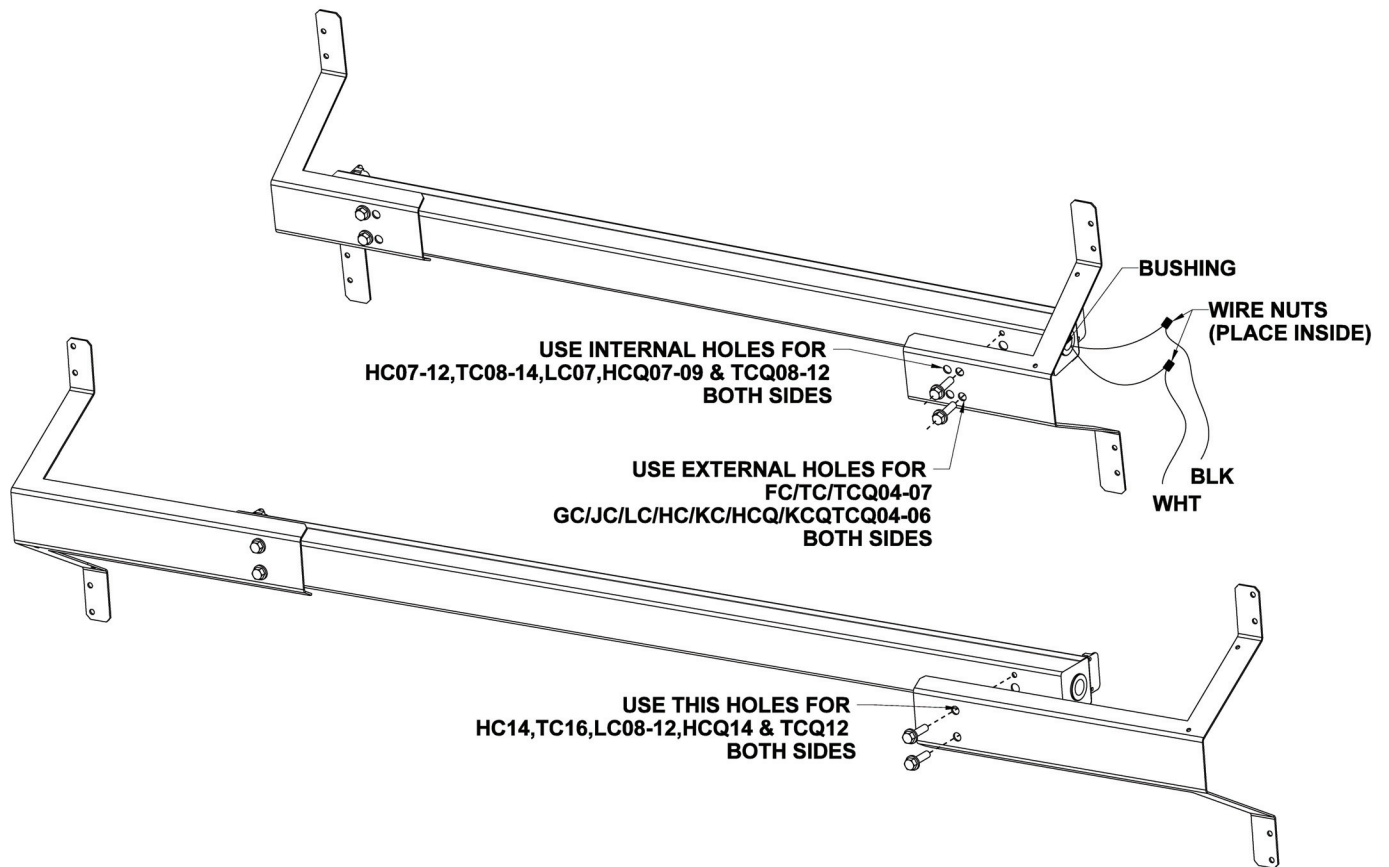

Fig. 3 — Support Brackets
4. Locate support brackets and UVC fixture/lamp, attach them using provided $\frac{1}{4}$ in. screws (4). See Fig. 3 for correct use of holes depending on unit size.
5. Locate and install black/white 24 in. wires to UVC leads with provided wire nuts. Use the bushing to protect against sharp edges. (See Fig. 3.)